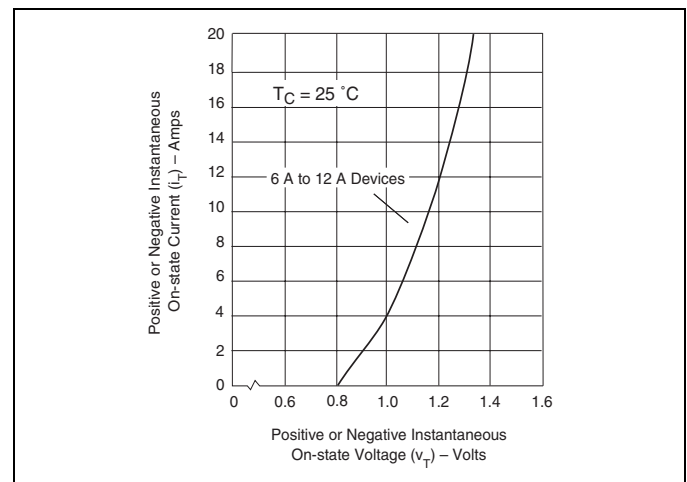
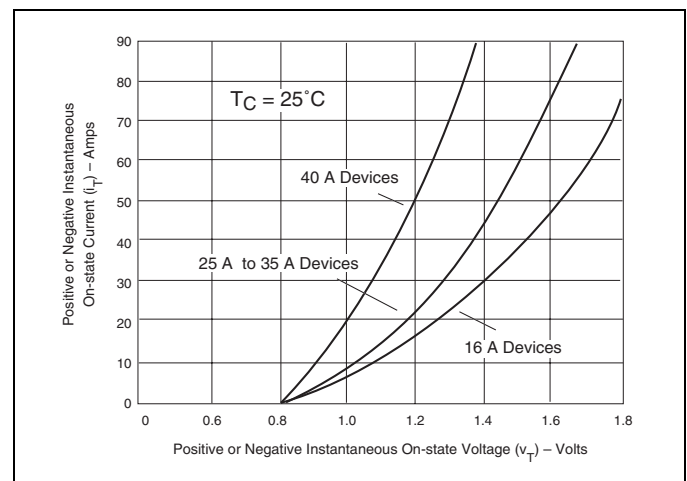

Figure E4.5 On-state Current versus On-state Voltage (Typical) (6 A to 12 A)
Figure E4.6 On-state Current versus On-state Voltage (Typical) (16 A to 40 A)
- (5) See Figure E4.5 and Figure E4.6 for iT and vT.